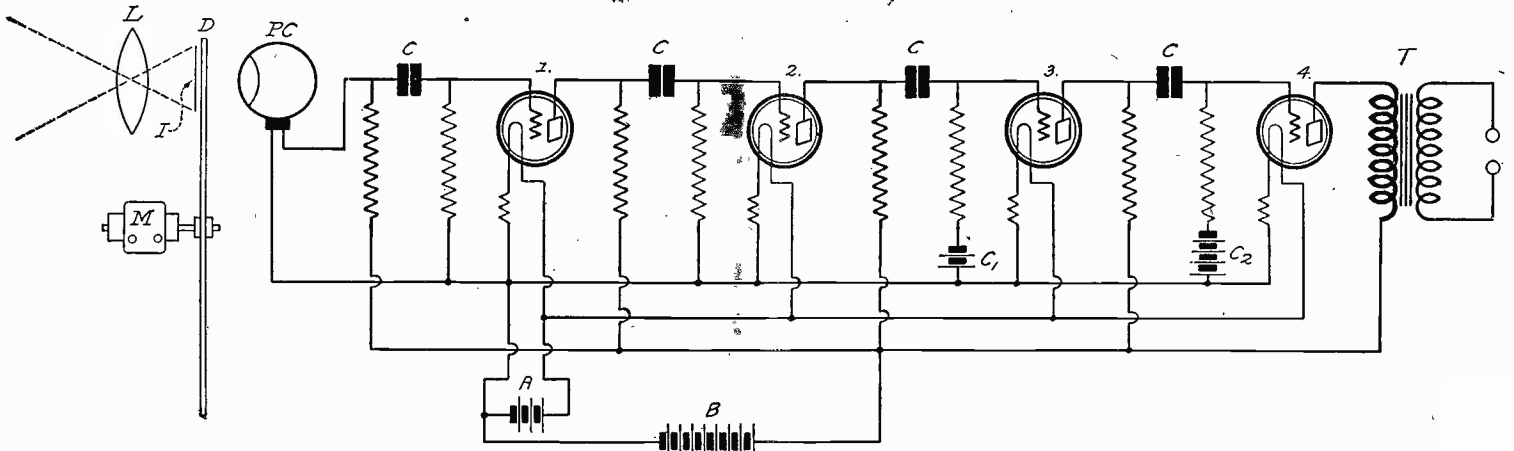

FIG. 713
(2)—Fig 713 show an amplifier used in the most successful transmission of television so far achieved.